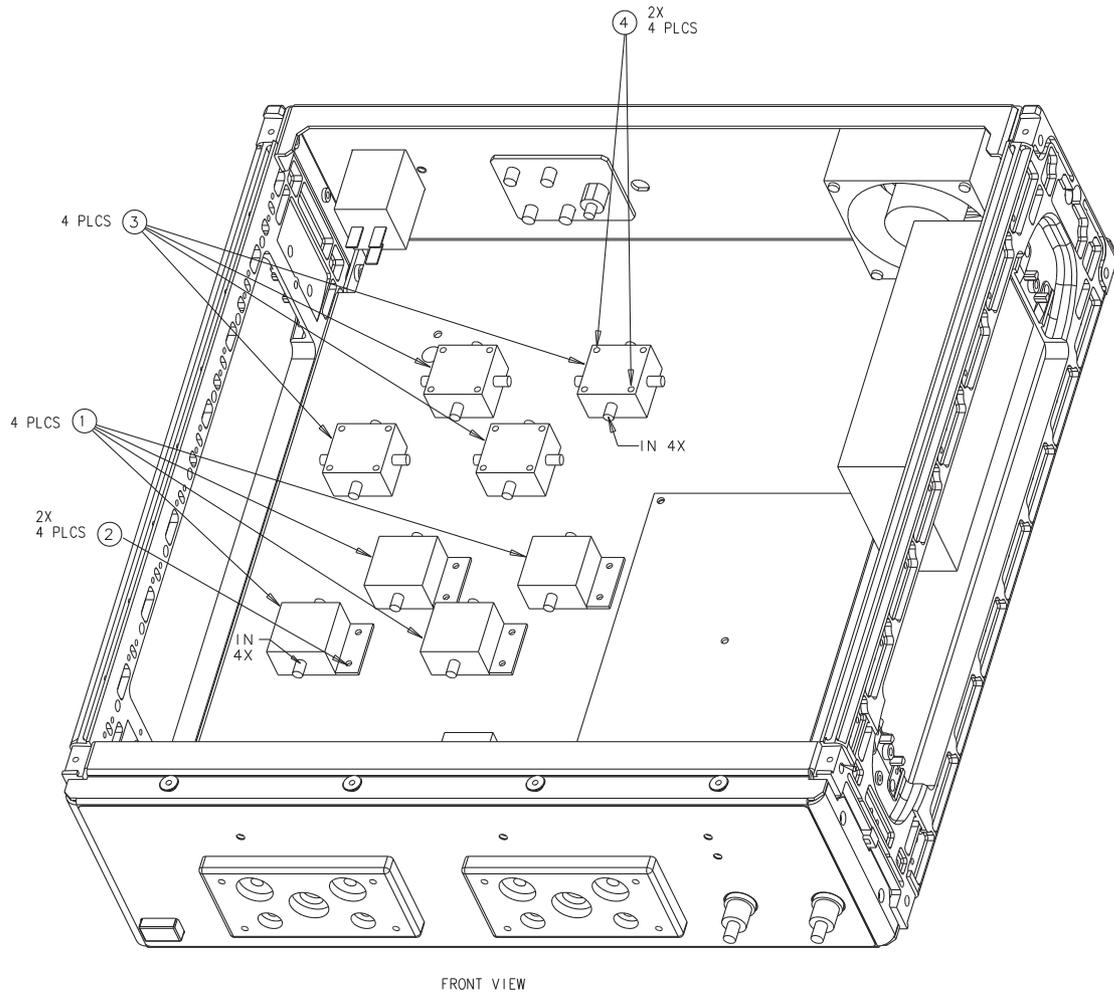

Figure 6-7. IF Amplifier and IF Switch Removal
5. Remove the two mounting screws (2) from the IF amplifier (1). Refer to Figure 6-7, “IF Amplifier and IF Switch Removal” on page 6-12.
6. Remove the IF amplifier (1) from the 3738A Test Set.
4. Remove the two mounting screws (4) from the IF switch (3). Refer to Figure 6-7, “IF Amplifier and IF Switch Removal” on page 6-12.
5. Remove the IF switch (3) from the 3738A Test Set.